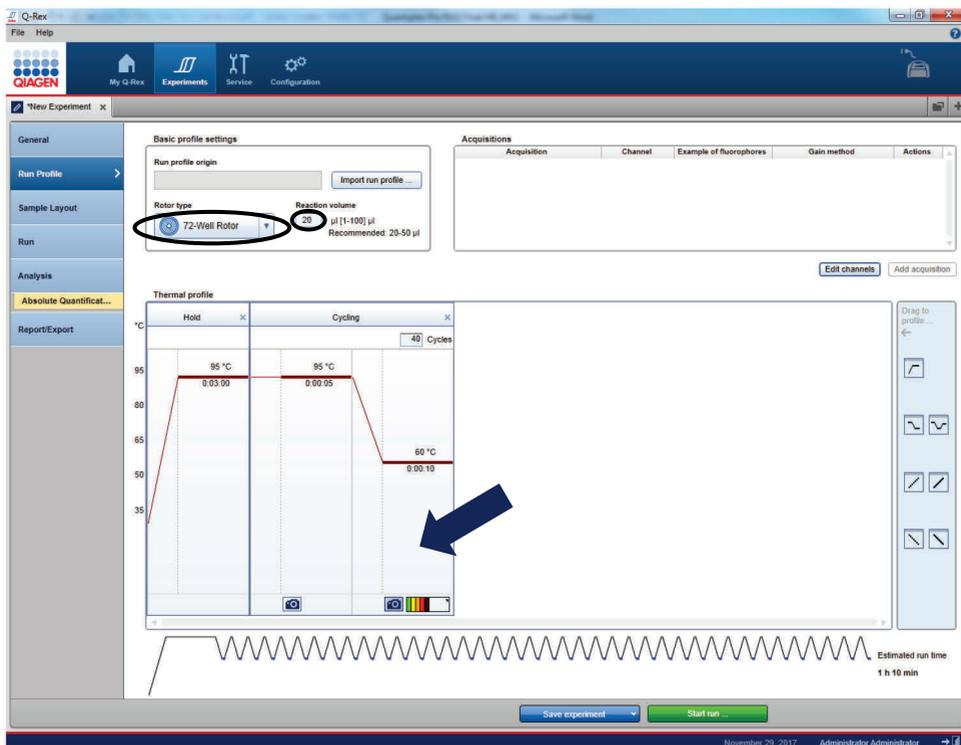
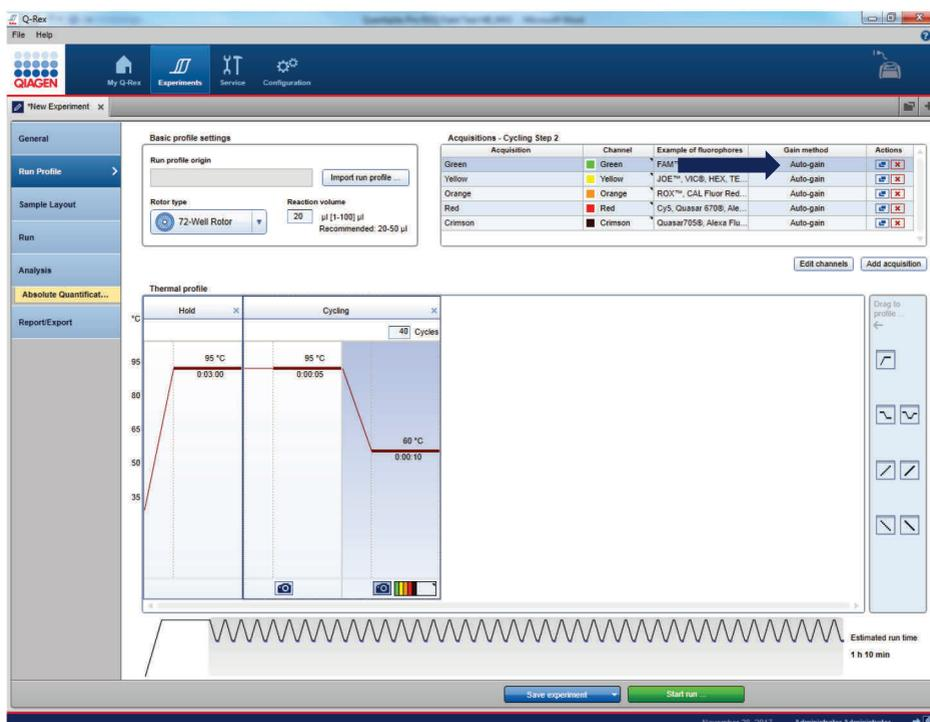

Figure 23. Run profile settings in Q-Rex.
Figure 24. Confirmation of Auto-gain settings in Q-Rex.
33. Confirm Rotor type and Reaction volumes" (Figure 23).
35. Click in the thermal profile in the area above the colored camera symbol (indicated by arrow in Figure 23). Acquisition settings will be displayed (Figure 24).
36. Click on the "Auto-gain" field for the green channel (Figure 24).